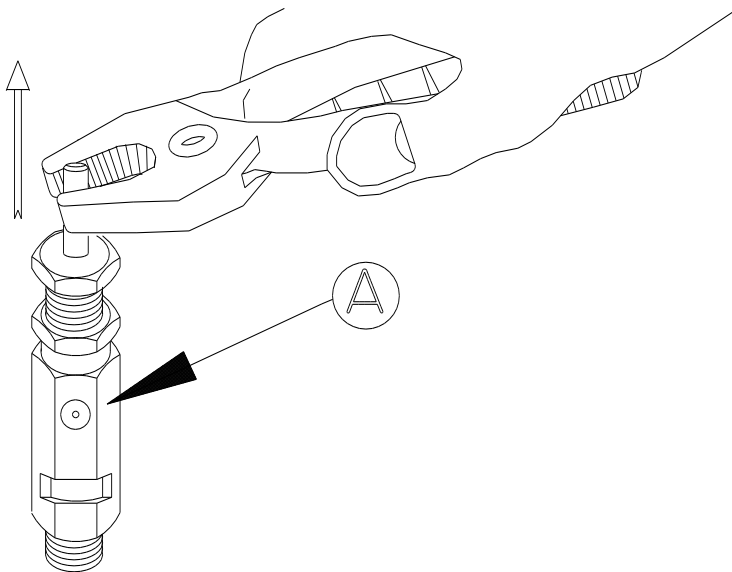

FIG. 10.4-1
2. With cocks closed and engine running at minimum speed, lift up the pin using a pair of pliers as indicated in fig.10.4-1 and release as soon as the valve appears to discharge air.